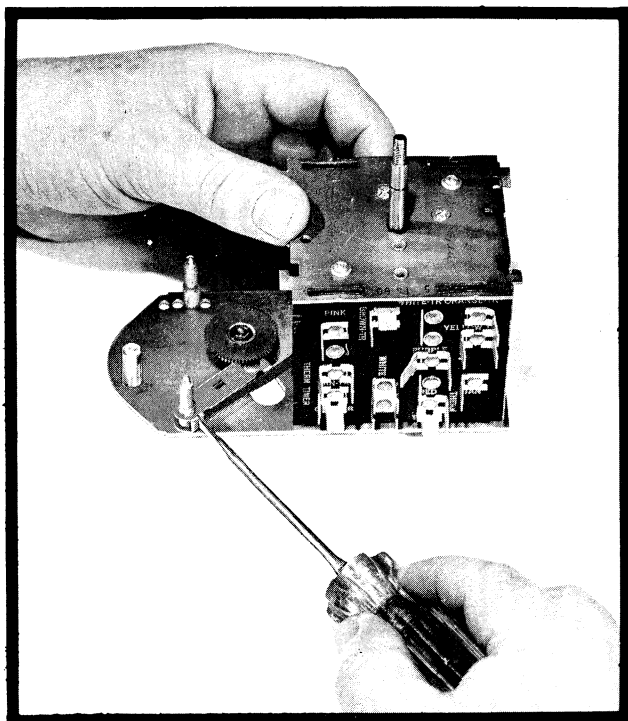

Figure 29
- d. Disengage and remove blade spring as illustrated, with screwdriver in *Figure 29*.